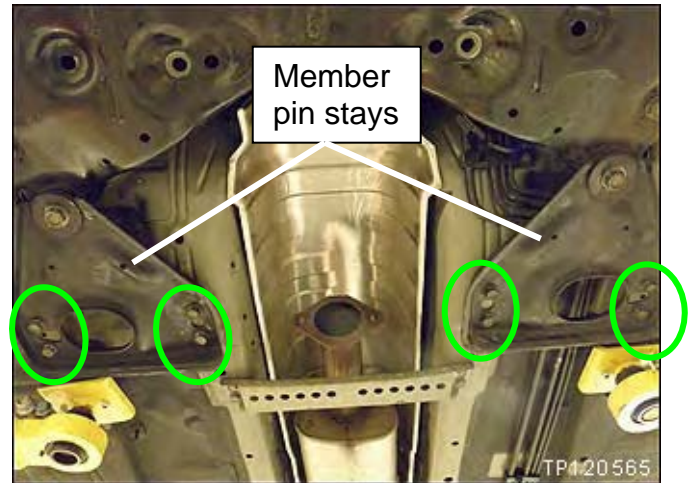

Figure 23
31. Remove the bolts circled in Figure 23 from the member pin stays; 4 bolts on each side – total 8.